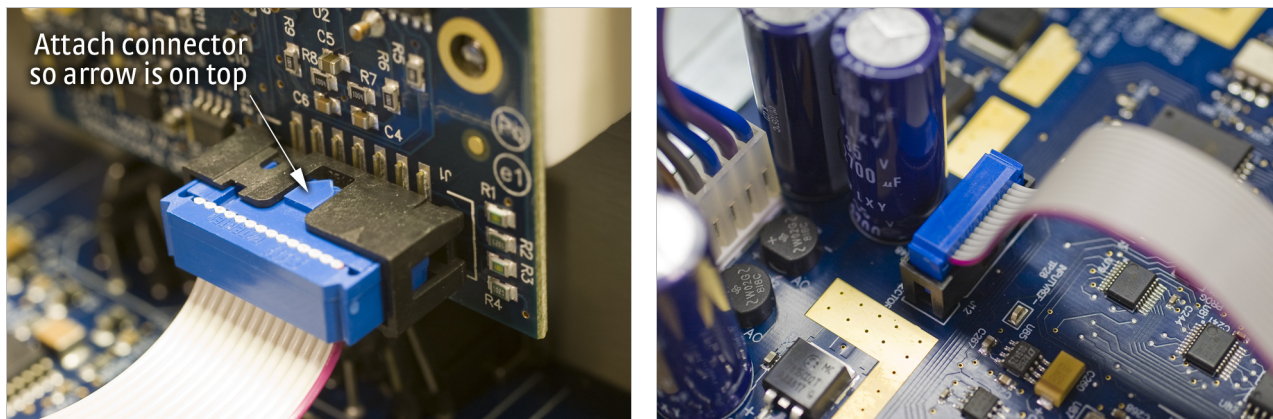

FIGURE 7-5 Proper orientation of the ribbon cable connector plug
10. This step is not applicable to the 3062 option card. Insert the 14-pin ribbon cable connector plug into the socket on the option board. Orient the ribbon cable connector plug so that the arrow nub slides into the plug slot, and the ribbon cable exits downward (FIGURE 7-5).